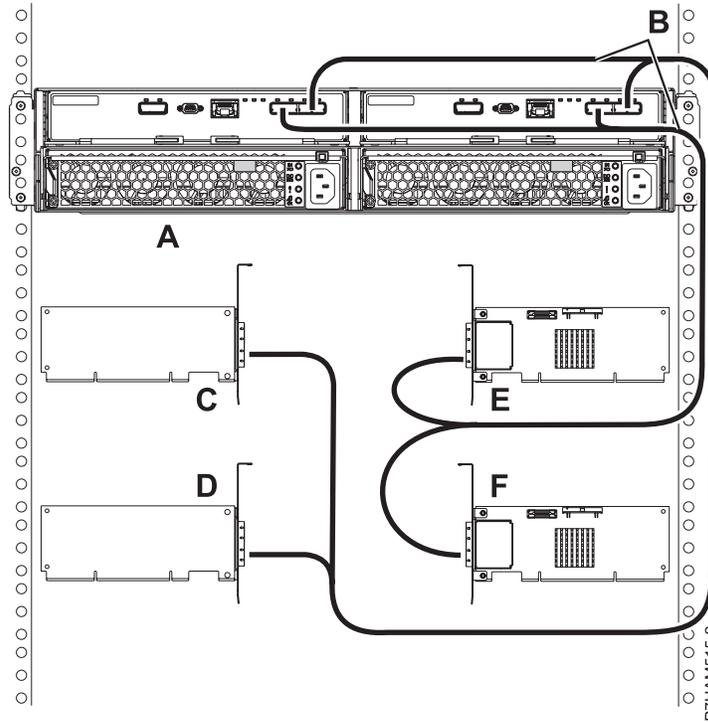

Figure 43. Mode 4 connection of one 58/87 disk drive enclosure by using X cables to four independent SAS adapters
17. Perform the mode 4 connection of one 58/87 disk drive enclosure (A) by using X cables (B) to four independent SAS adapters as shown in Figure 43 on page 76.